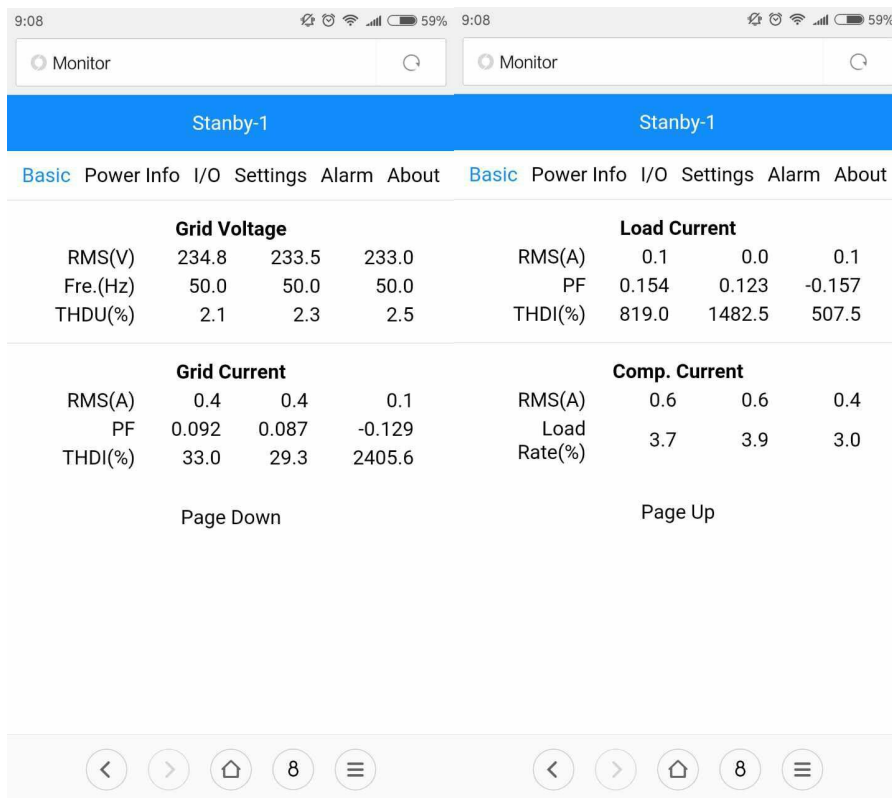

Fig. 4-4 Monitoring interface
(5) After WIFI connection, enter the operation interface to review power grid voltage, power grid current, load current, compensation current and other data, as shown in Fig. 4-4. Refer to Table 4-1 for detailed menu information.